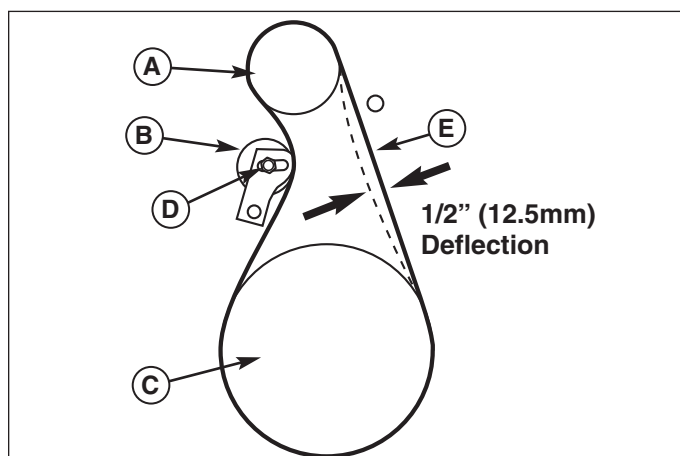
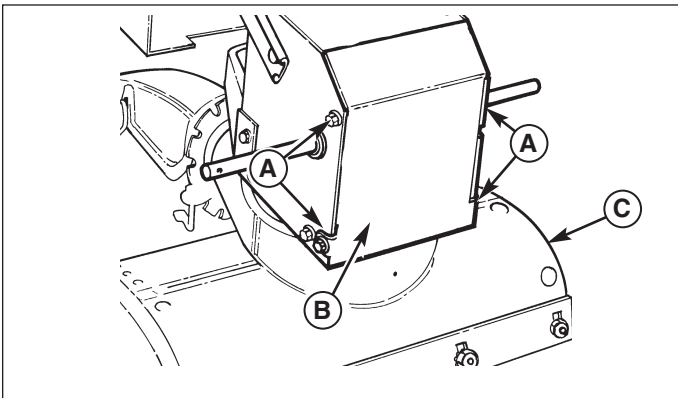

Figure 10. Auger Belt Deflection
Figure 11. Bottom Cover
3. Loosen nut (D, Figure 10) on auger idler pulley (B) and move auger idler pulley towards belt about 1/8 inch (3mm).
4. Tighten nut (D).
5. Engage auger drive clutch. Check tension on belt (opposite idler pulley). Belt should deflect about 1/2 inch (12.5 mm) with moderate pressure see Figure 11). You may have to move the idler pulley more than once to obtain the correct tension.
2. Loosen the capscrews (A, Figure 11) on each side of the bottom panel (B).
3. Remove the bottom panel (B).
25. Install the bottom panel (B, Figure 11). Tighten 1/4-20 screws to 25-35 lb-in (2,8-3,9 Nm).
14. Install the bottom panel (B, Figure 11). Tighten 1/4-20 screws to 25-35 lb-in (2,8-3,9 Nm).